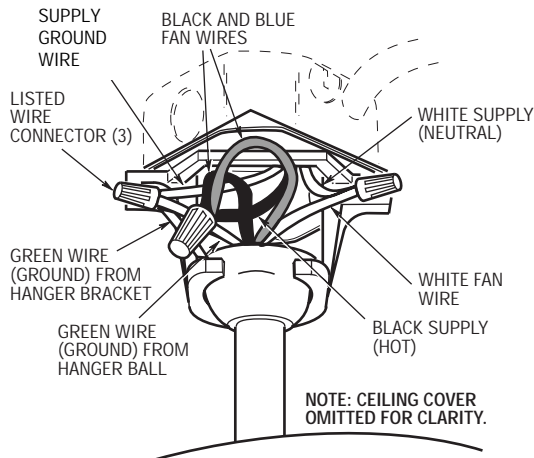

Figure 9
1. Connect the green grounding lead from the hanger ball and the green grounding lead from the hanger bracket to the grounding conductor of supply (this may be a bare wire or wire with green colored insulation) (Figure 9). Securely connect wires with wire connector supplied.
2. Securely connect the fan motor white wire to the supply white (neutral) wire using wire connector supplied (Figure 9). Securely connect the fan motor black wire and blue wire to the supply black (hot) wire using wire connector supplied (Figure 9). After connections have been made, turn leads upward and carefully push leads into the outlet box, with the white and green leads on one side of the outlet box and the black and blue leads on the other side of the outlet box.